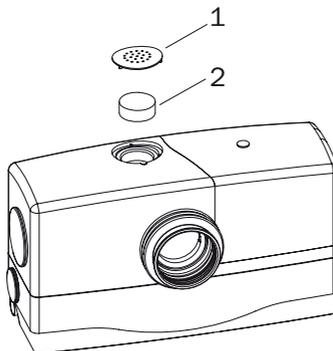

Figure 11
2. Remove the filter cover and the carbon filter (see page 34, fig. 11)